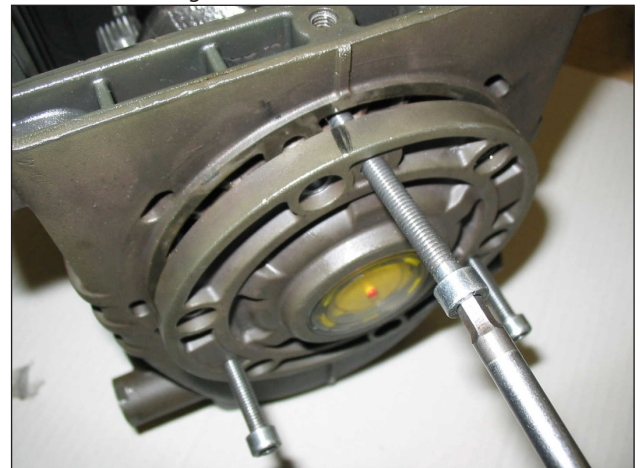

Fig. 3
- the side covers using - for extraction 3 fully threaded M6x50 screws, inserting them in the threaded holes as indicated in Fig. 3.